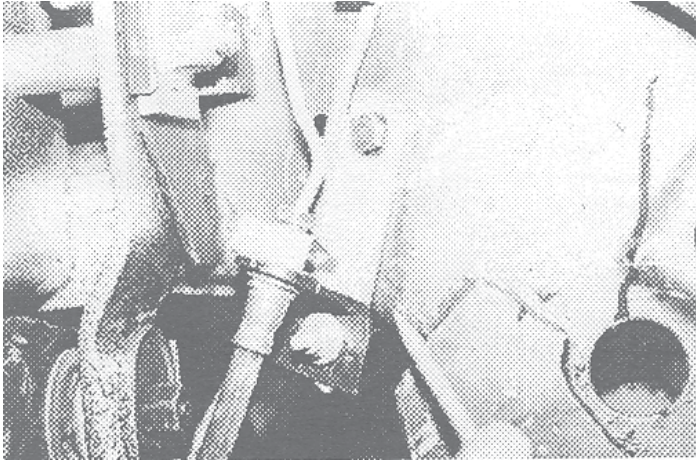

Fig. 39
38. Insert the 1/4" x 1" carriage bolts into square hole of 1" x 3" flat brackets "WS". Tighten tennerman nut to hold bolt in place. Attach upper end of bracket to frame at original brake line mount point using OE fastener. Remove bolts and clamps retaining brake lines to frame at shock towers. Carefully acquire slack in brake lines. Carefully extend brake line outward and down and mount to 1/4" bolt in extension bracket. **DO NOT KINK LINE**. Remount lines to frame using OE clamps and bolts. **Fig. 39.**